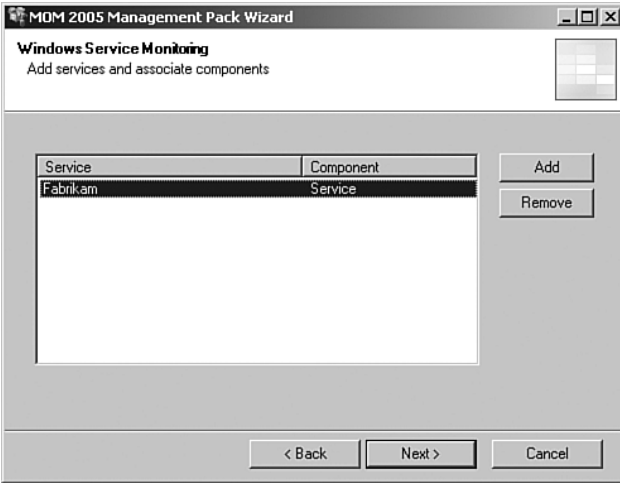

FIGURE 20.5 MOM 2005 Management Pack Wizard Windows Service Monitoring.
4. On the Windows Service Monitoring screen, add the Fabrikam service (installed by ADAM), as displayed in Figure 20.5.